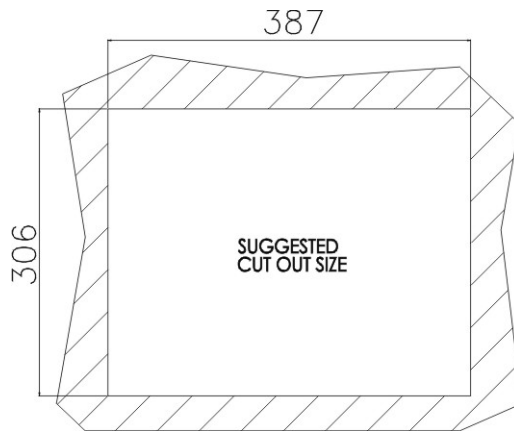
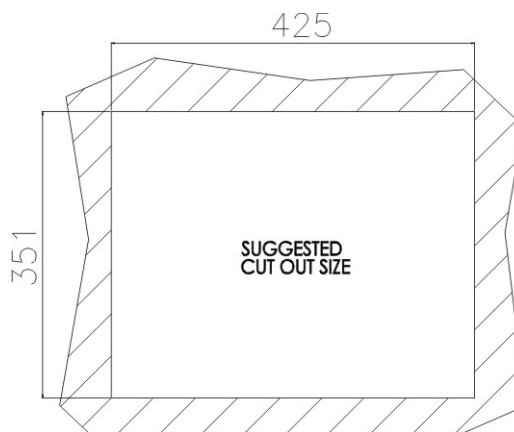

Figure 3-25: WIDS-515A-H61 Panel Cutout Dimensions
Figure 3-26: WIDS-517A-H61 Panel Cutout Dimensions
Step 2: Cut out a section of the panel that corresponds to the rear panel dimensions of the WIDS-51xA-H61. The recommended cutout sizes are shown below (Figure 3-25 and Figure 3-26).